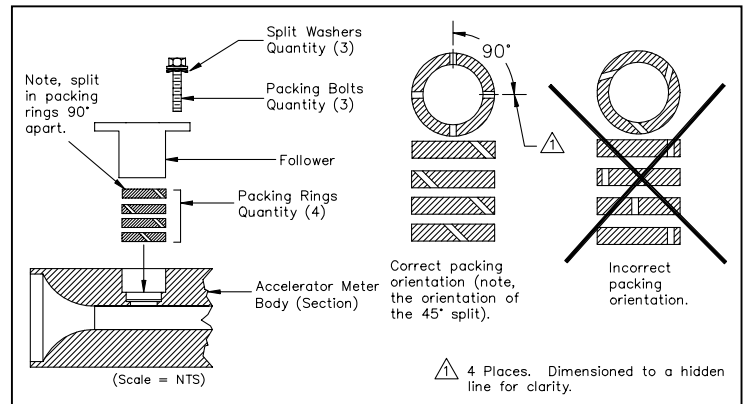

Figure 7. Packing Rings
- These steps should be repeated for the other three packing rings, being sure that the splits in the packing rings are 90° apart as shown in Figure 7.